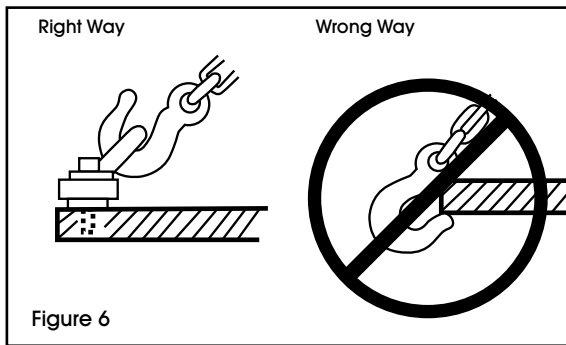

Figure 6
- Do not point load hooks - center load in base of hook. (See Figure 6)